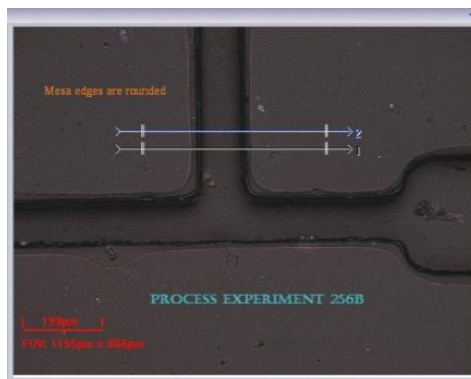

Fig. 60. 2D image with two annotations
7. Add more annotations if needed. Fig. 60 shows an image with two annotations.